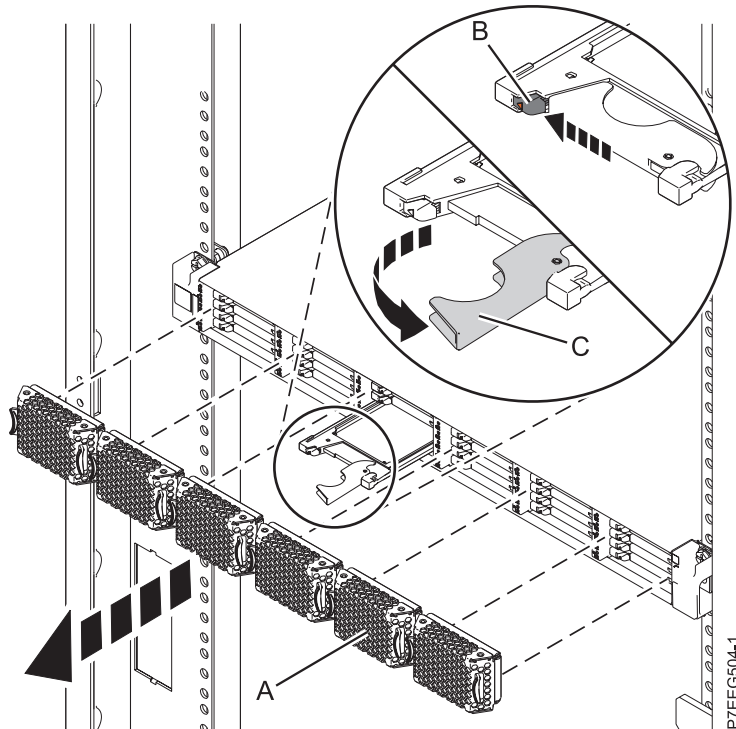

Figure 20. Removing the solid-state drive from the 58/88 PCIe storage enclosure
1. Pull off the bezel (A) that covers the slot that contains the solid-state drive. See Figure 20 on page 35.
2. Slide the release latch (B) over gently to unlock the drive handle.
3. Grasp the handle (C) and pull the drive partially out of the slot.